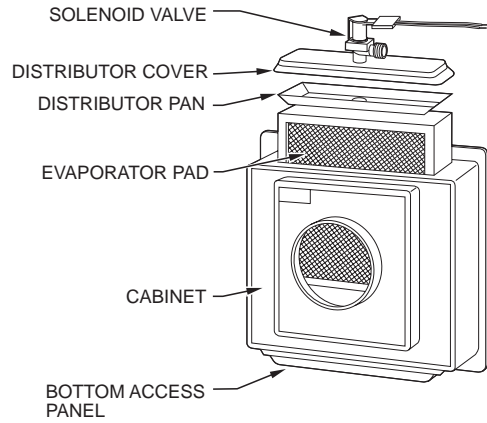

Fig. 5 — Humidifier Details — P110-LBP2018A
- On P110-L8P2018A or P110-LFP1025A humidifiers, loosen the thumbscrew that holds the distributor cover to the top of the cabinet. Lift up the distributor cover slightly to make certain that water is flowing from the solenoid valve into the distributor pan. Do not lift the cover off the cabinet more than 1 in. when water is flowing. (See Fig. 5 or 6.)
- To disassemble either a P110-LBP2018A or P110-LFP1025A humidifier, first remove the water supply connection to the solenoid valve. Next, remove the screw that holds the distributor cover to the cabinet, and lift off the cover. Disconnect the drain line from the sump and loosen the thumbscrew(s) holding the sump to the cabinet. Remove the sump. Remove evaporator pad assembly. (See Fig. 5 or 6.)